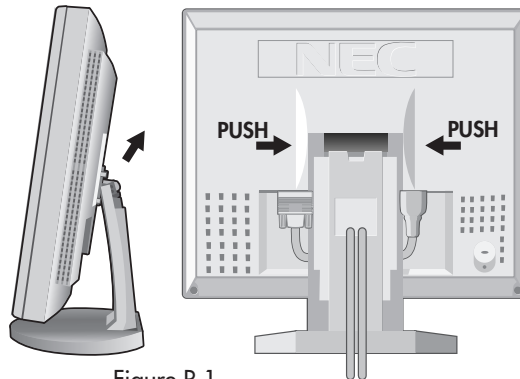

Figure R.1
1. Remove the connector cover, hinge cover and cable cover (**Figure R.1**).